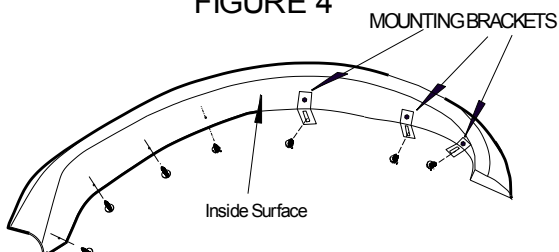

FIGURE 5
- (A) Remove and save 2 screws holding mud flap to vehicle.
- (B) If vehicle has no chrome strips, insert the supplied plastic grommets into holes in wheel well lip.
- (C) Secure flare to fender using 2 screws removed in last step and the screws supplied in kit. **See Figure 5.**